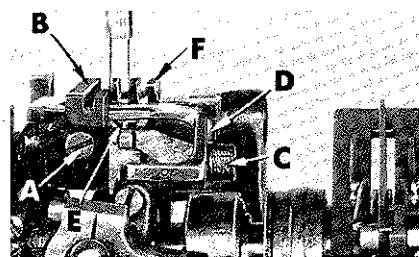
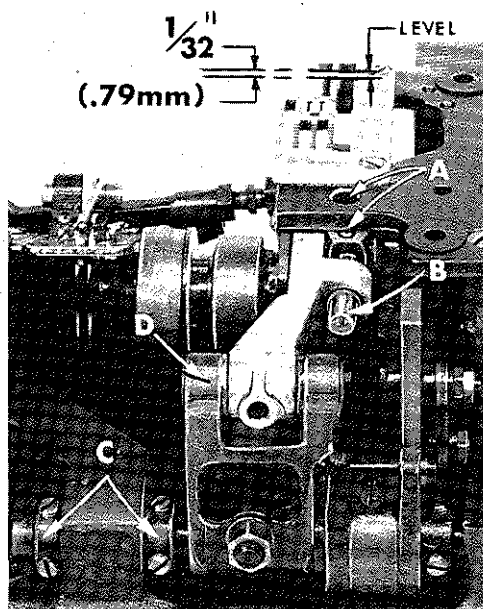
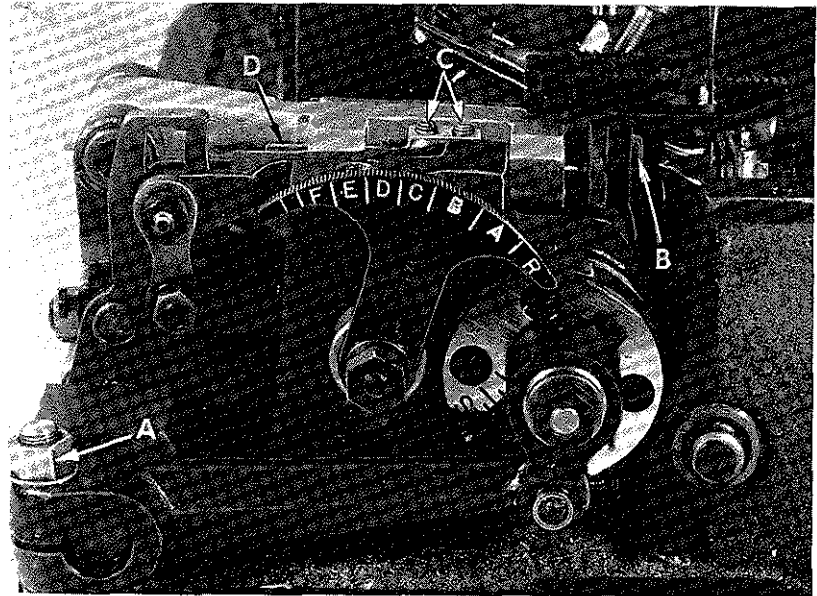

Fig. 9
Fig. 10
Fig. 12
The differential feed dog should be set to rise the depth of a full tooth or approximately  $3/64$  inch (1.19mm) above the throat plate at highest point of travel. Adjustment can be made by loosening screw (A, Fig. 9 or B, Fig. 12), raise or lower feed dog (B, Fig. 9) and retighten screw. At maximum feed travel, the feed dog should clear the forward end of throat plate by  $1/32$  inch (.79 mm) Fig. 10; also parallel to the top surface of throat plate and centered in throat plate slot across-the-line-of-feed. Adjustments can be made by loosening set screws (A, Fig. 10 or C, Fig. 12), permitting the differential feed bar (B, Fig. 10 or D, Fig. 12), to be moved forward, backward or rotated as needed to acquire the aforementioned conditions. Under extreme circumstances it may be necessary to shift the complete feed mechanism slightly, to the right or left to meet these conditions. This can be done by loosening collars (C, Fig. 10) and moving feed rocker (D); retighten collars and set screws securely. Make sure the feed rocker arm does not bind after making this adjustment.
To raise or lower main feed dog, loosen Allen screw (C, Fig. 9) allowing feed dog holder (D) to be moved. NOTE: Screw (E) must be set to support the main feed dog (F) when specified height is obtained. Retighten screw (C).
of-feed, loosen nut (A, Fig. 12) and move feed rocker forward or backward as needed, retighten nut.